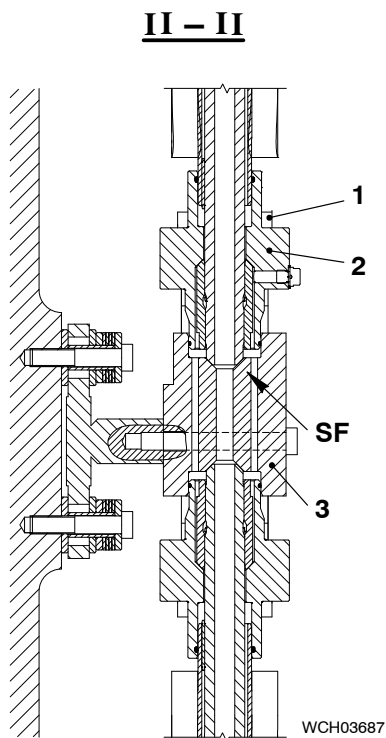
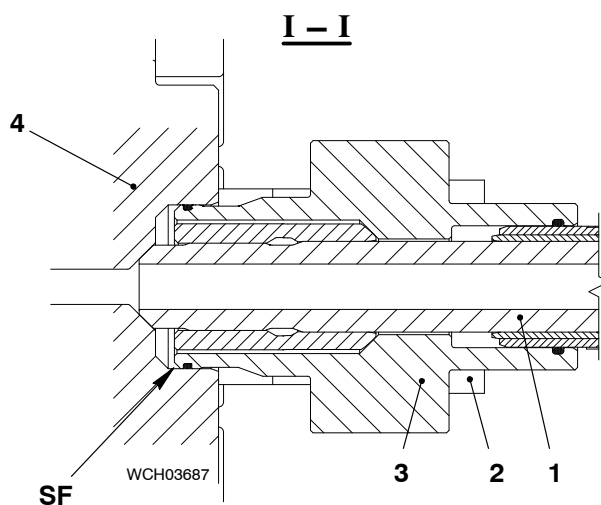

Fig. 5
Fig. 6
- 1) Remove the four screws (1, Fig. 5) from the flange (2).
- 2) Carefully move the flange (2) away from the intermediate piece (3).
- 3) Remove the four screws (2, Fig. 6) from the flange (3).
- 4) Carefully move the flange (3) away from the valve housing (4).
- 5) Carefully remove the HP fuel pipe (1).
- 6) Apply protection to the sealing faces (SF) to prevent damage and contamination.